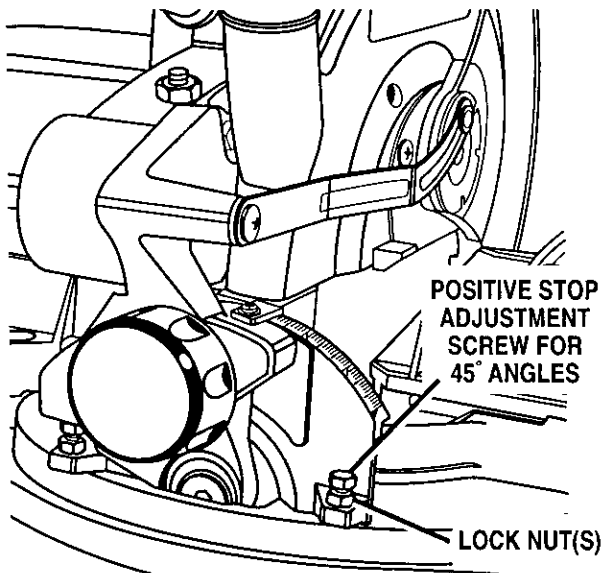

Fig. 24
- Adjust positive stop adjustment screw to bring saw blade into alignment with the square. See Figures 24 and 25.